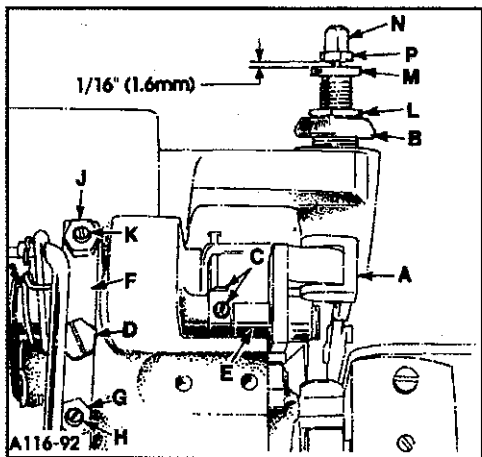

Fig. 17
Position presser arm (A, Fig. 17) in sewing position and lock in place by turning release bushing (B).
Loosen nut (G, Fig. 17) and adjust lifter lever stop screw (H) so the presser foot will not contact the needle driving arm or the upper looper/spreader at any point of travel when the foot lifter lever is completely depressed. Tighten nut (G). Loosen nut (J) and set stop screw (K) so there is approximately $1/16$ " (1.6mm) free motion in the lifter lever before the presser foot starts to rise. Tighten nut (J).
Sufficient pressure must be maintained to feed work uniformly. Excessive spring pressure will cause the feed dogs and presser foot to wear prematurely when chaining. If it is desirable to increase or decrease the amount of presser foot pressure position, presser arm in sewing position and lock in place. Loosen nut (L, Fig. 17) and turn adjusting screw (M) clockwise to increase pressure or counterclockwise to decrease pressure. Tighten nut (L) loosen cap nut (N) and position nut (P) so there is a $1/16$ " (1.6mm) clearance between adjusting screw (M) and nut (P). Hold nut (P) in position and tighten cap nut (N).